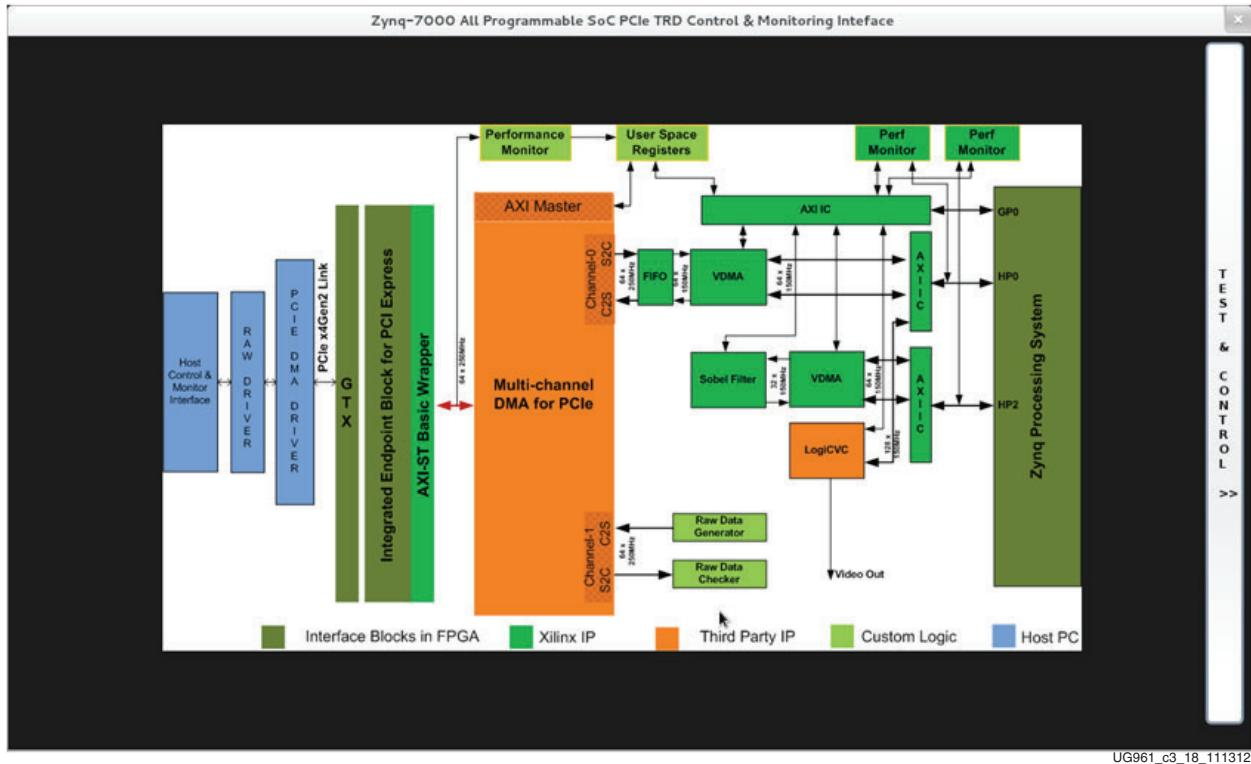

Figure 3-18: Design Block Diagram
10. Click on the **Block Diagram** option to view the design block diagram as shown in Figure 3-18.